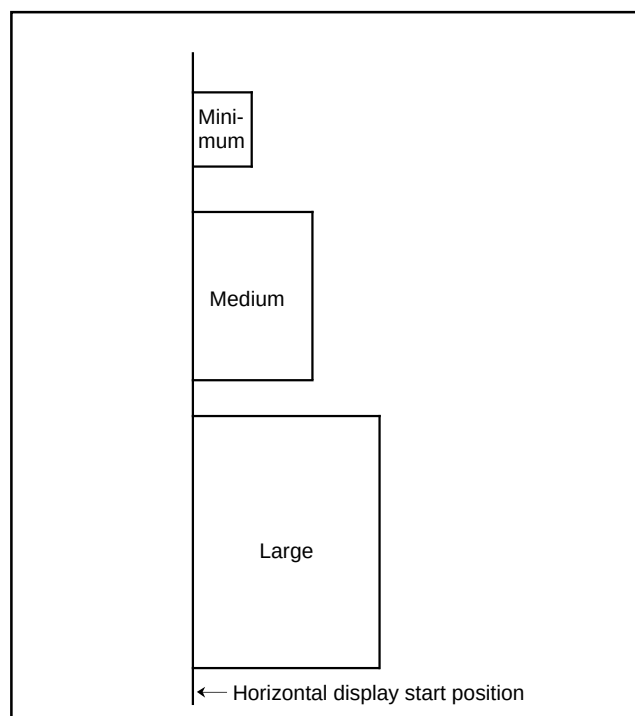

Fig. 41. Display Start Position of each Character Size (horizontal direction)
**Note:** The display start position in the horizontal direction is not affected by the character size. In other words, the horizontal display start position is common to all blocks even when the character size varies with each block (refer to Figure 41).